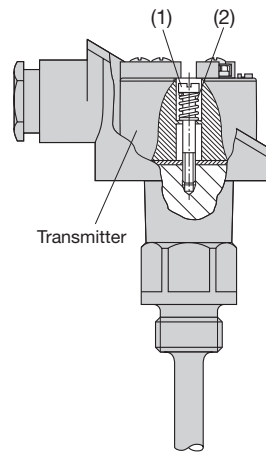

Fig. 4. Spring mounting on the insert in the terminal head.
Thread the leads through the hole in the centre of the transmitter. Align the transmitter in the lower part of the terminal head and secure it using two cheese-headed screws (1) and two springs (2) (see Fig. 4). Connect the leads acc. to section "7. Electrical connections".